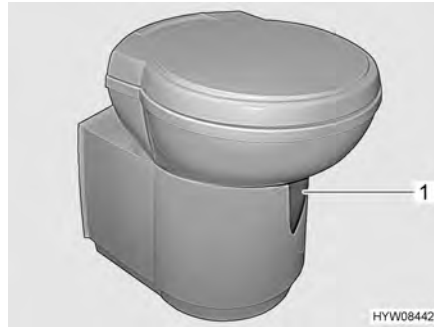

Fig. 106 Thetford toilet bowl (swivelling)
- Before flushing open the sliding trap of the Thetford toilet. To do this, push the slide lever (Fig. 106,1) in an anticlockwise direction.